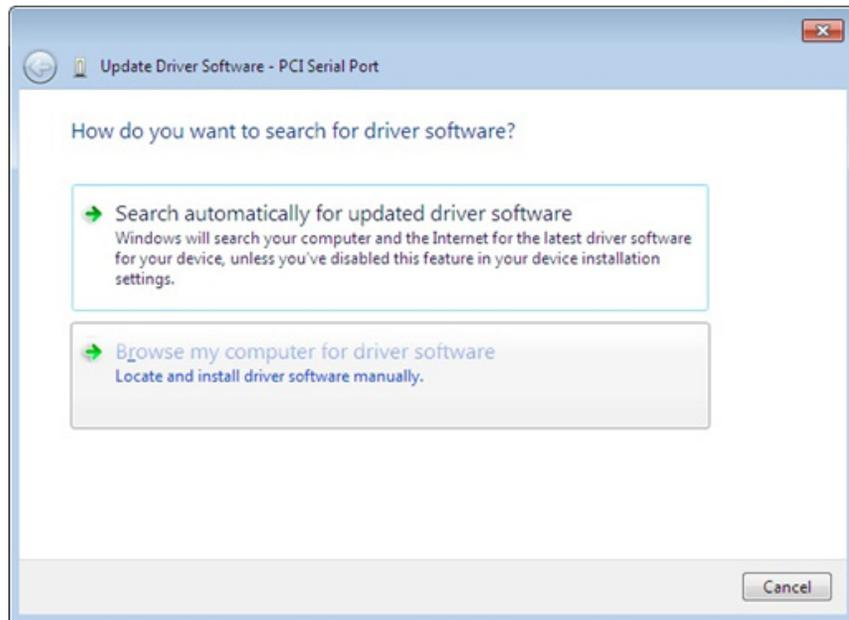

Figure 7-5 Update Driver Software - PCI Serial Port (Windows 7)
7. In the dialog box that appears, select **Browse my computer for driver software** (see Figure 7-5). Enter the location of the driver.